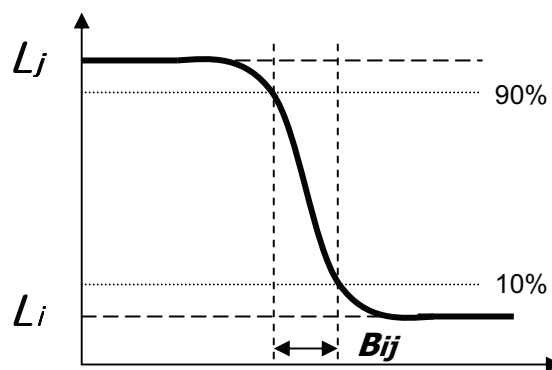

FIG. 3 MPRT
- MPRT is defined as the 10% to 90% blur-edge width Bij(pixels) and scroll speed U(pixels/frame)at the moving picture. For more information, see FIG 3.